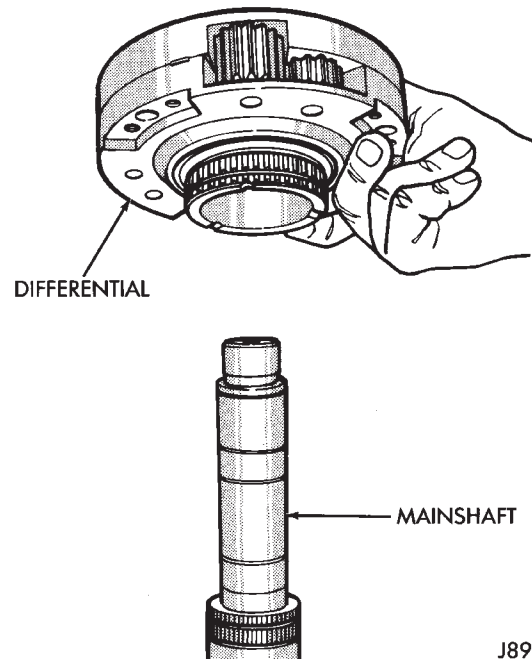

Fig. 22 Differential Removal
(33) Remove differential (Fig. 22).
(34) Remove differential needle bearings and both needle bearing thrust washers from mainshaft.